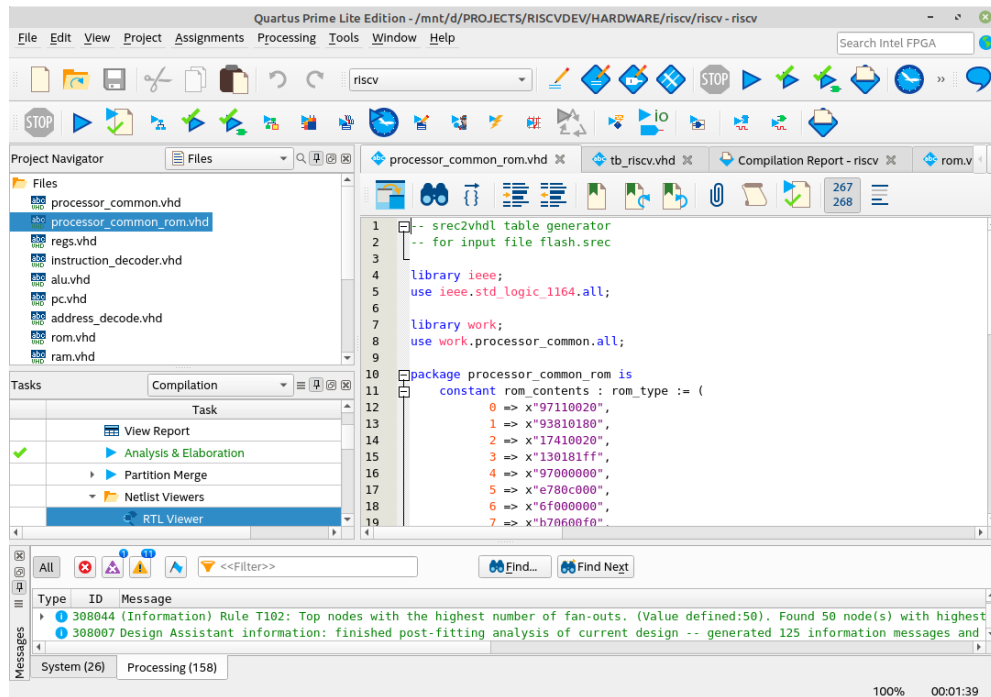

Figure 5: Image of the Quartus project (1).
- Now start the compilation of the VHDL code in Quartus Prime Lite and program the compiled file. This file has the extension `.sof`. See Figures 5 to 7.